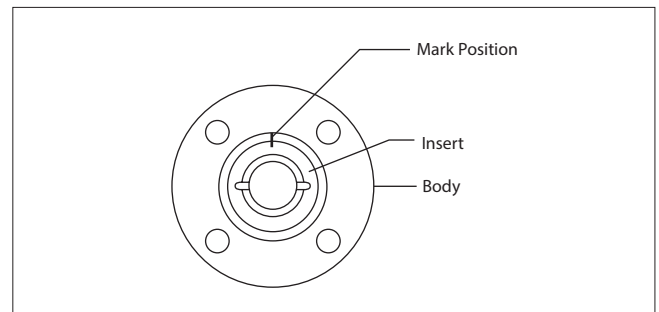

Figure 3.
4. Screw the insert (2) into the body until it is fully seated, and then mark its position as (shown in **Figure 3**). Counting the number of turns, remove the insert.